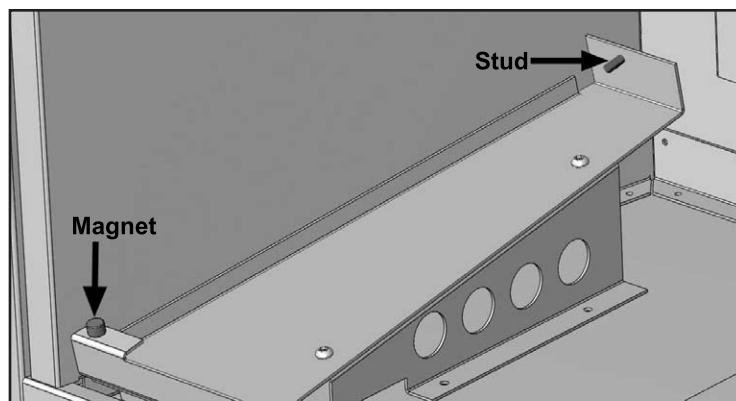
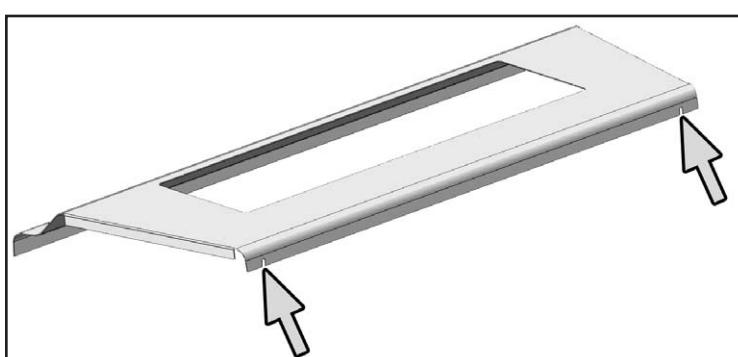

Figure 101: Permanent Magnet on Left Burner Cover
Figure 102: Slots in Back of Burner Cover.
8. Place one of the Permanent Magnets provided on the front edge of the Burner Cover Supports as shown in Figure 101.
10. Place the Ceramic Burner Front on top of the Burner Cover Supports as shown in Figure 101. This part should be pulled forward until it contacts the metal brackets in the front.
11. The Burner Cover has two (2) slots, one the either side of the rear flange (refer to Figure 102). These slots fit over the two (2) studs in the firebox (refer to Figure 101) to keep it in place.